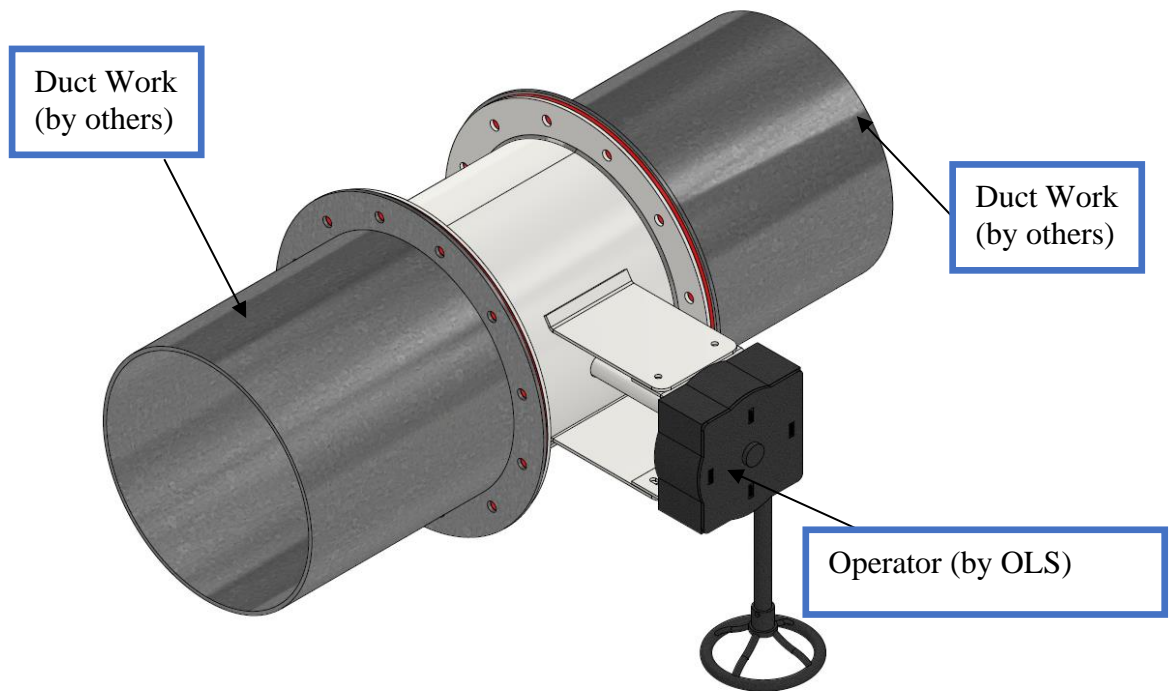

Figure 3
g) Connect the duct for the other side, and repeat steps [c] and [f], refer to figure 3.